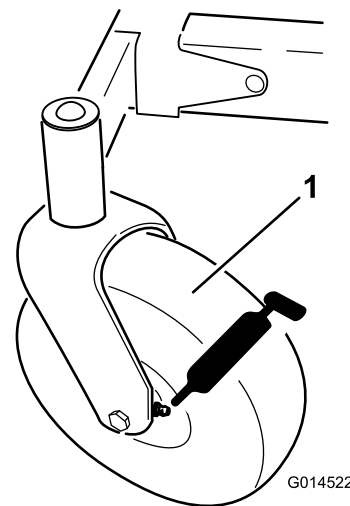
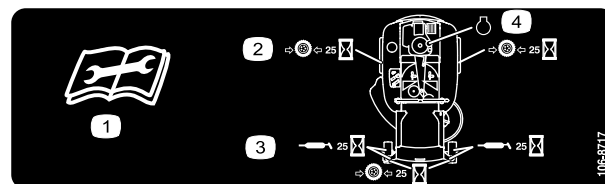

Figure 33
Figure 34
3. Clean the grease fittings (Figure 33 and Figure 34) with a rag.
ooze out of the bearings (Figure 33 and Figure 34).